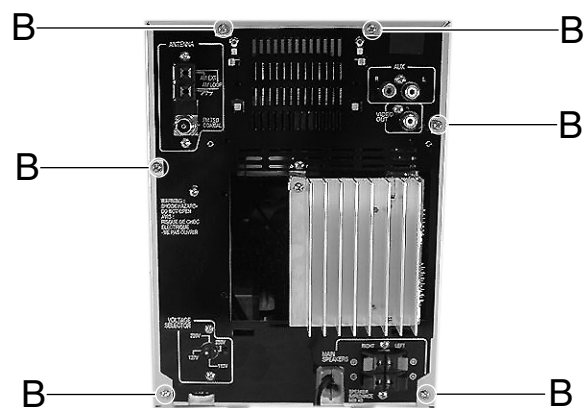

Fig. 3
■ Removing the metal cover (See Fig. 3~5)